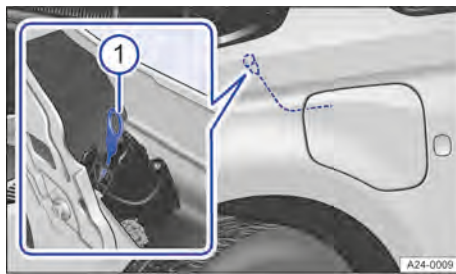

Fig. 161 Between the left wing and bonnet space: manual release for the charging connector.
① Loop for manually release.
3. Pull loop → Fig. 161 ①.